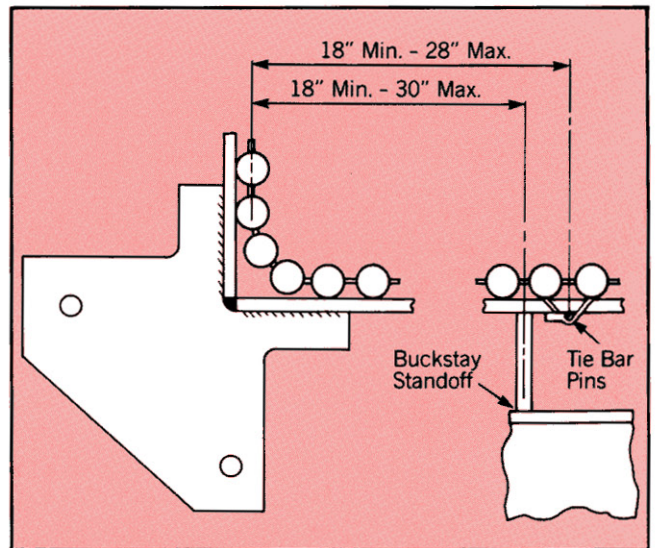

Figure 2 Tie bar pins.
2. No buckstay standoffs closer than 18" to the corner. Remove all stand offs closer than the 18" limit. See Figure 2.
3. No tie bar pins closer than 18" to the corner. Remove all pins that are closer than the 18" limit. See Figure 2.